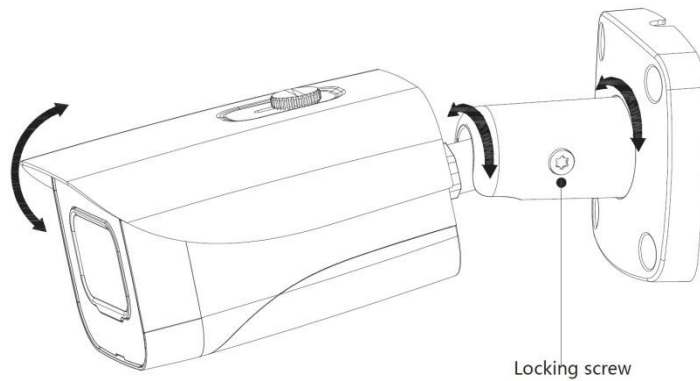
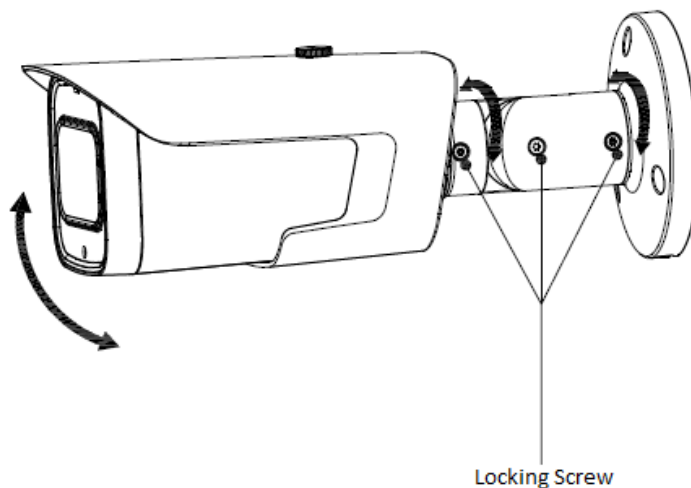

Figure 3-3
Figure 3-4
Step 1 Drill screw holes (and the cable outlet hole if it needs to go through the mounting surface) on the mounting surface⑤ as indicated on the positioning map.
- For masonry mounting surface, insert expansion bolts④ from the accessory pack in the screw holes.
Step 3 Adjust the location of the bracket③ according to cable outlet requirement (top out or side out), and then pull the cable out through mounting surface or the side cable tray.
Step 4 Align the screw holes on the bracket③ to those on the mounting surface, then put in and fasten the supplied self-tapping screws② to attach the device① to the mounting surface.
Step 5 Connect the camera to power source and the HDAVR device, and then aim the lens to the ideal angle, see Figure 3-3 or Figure 3-4.